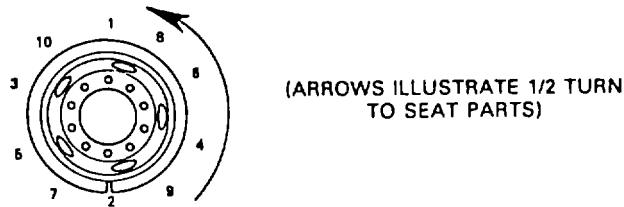

Figure 3-4. Disc Wheel Tightening Sequence
- (1) Slide inner rear or front tire and wheel in position over studs and push back far as possible. Use care to avoid damage to threads on studs.
- (2) Install the outer wheel nut on front wheels and inner wheel nut on rear dual wheels. Run nuts on studs until the nuts start to contact the wheel. Rotate wheel a half turn to allow parts to seat naturally.
- (3) Draw up stud nuts, alternately following the sequence (criss-cross pattern) illustrated in Figure 3-4. Do not fully tighten the nuts at this time. This procedure will allow a uniform seating of nuts and insure the even face-to-face contact of wheel and hub.
- (4) Continue tightening the nuts to the torque specifications in the Torque Chart using the same alternating method shown.
- (5) Install the outer rear wheel and repeat the preceding method. Be sure that both inner and outer tire valve stems are accessible.
- (6) After operating the vehicle approximately 50 miles (80 km) check the stud nuts for tightness. Some natural seating of parts may be encountered and the torque on nuts will drop. Retighten all nuts to specified torque.